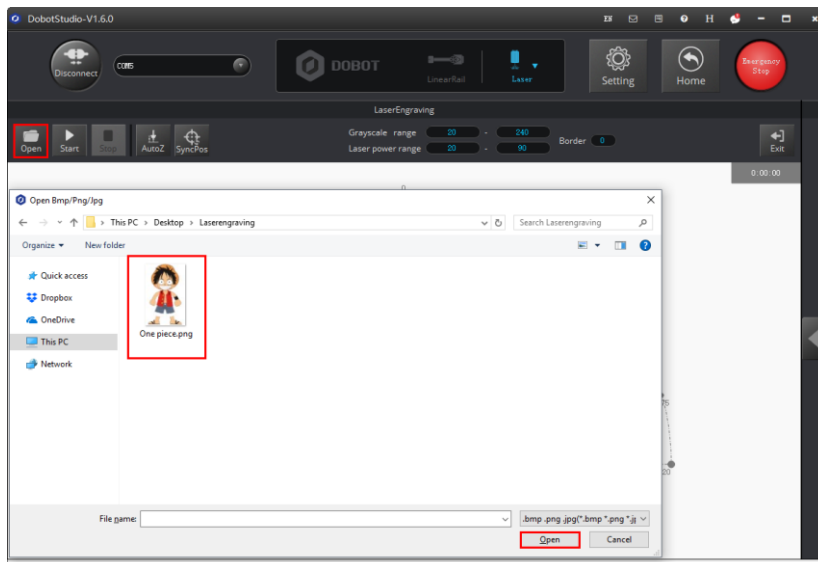

Figure 5.94 Import an image file
Step 2 Click **Open** to import an image file such as BMP, JPEG, or PNG, as shown in Figure 5.94.